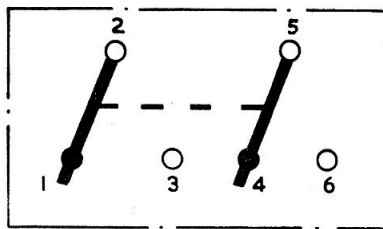

Fig. 5. Circuit diagram
18. When connections are checked for security, the weather grommet should be replaced in position on the switch. Circuit connections are made at the terminals of the two-pole, change-over switch (with quick make and break action) shown in circuit diagram (fig. 5).
19. Remove the grommet from the switch, pass it on to the cables, prepare the cable ends and connect them to their respective terminals. Follow the procedure detailed in para. 16. Circuit connections are made at the terminals of the two-pole, change-over switch shown in circuit diagram (fig. 5).